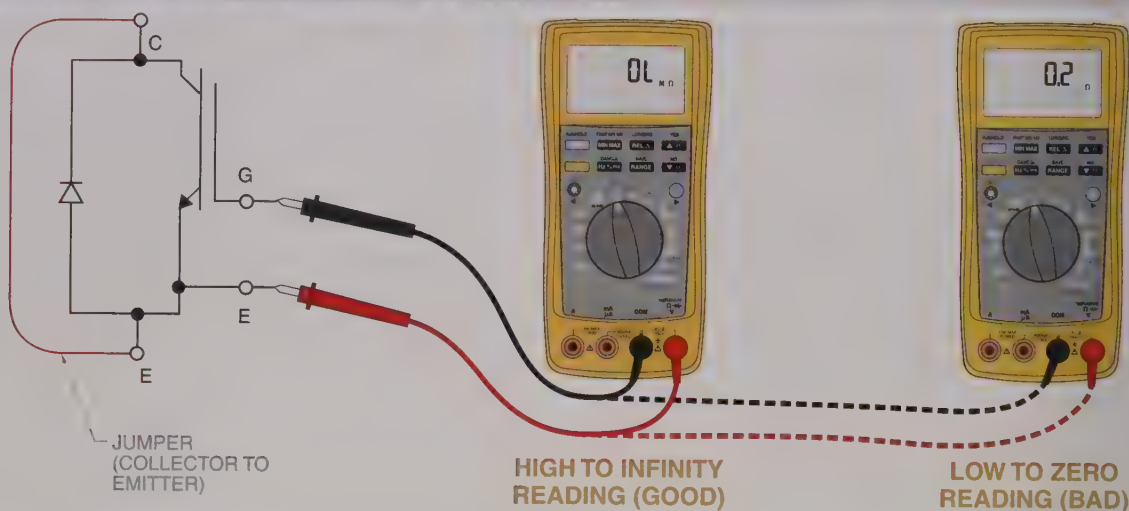

Figure 22-31. The leakage resistance between the gate (G) and emitter (E) is measured with the collector (C) and emitter (E) shorted to each other.
The leakage resistance is measured between the gate (G) and emitter (E) with a jumper between the collector (C) and emitter (E). See Figure 22-31. When a digital multimeter (DMM) is used, the internal battery voltage should be verified to be less than 20 V. A high voltage can damage the IGBT. The resistance reading for an IGBT in good condition ranges from several megohms ($M\Omega$) to infinity. The IGBT is considered defective if the resistance between the gate and emitter is very low.